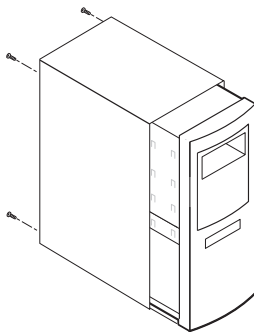

FIGURE 3
3. Remove the cover from your system case. See Figure 3.